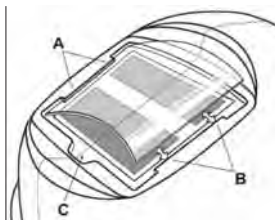

Figure 1
**Replacing Front Cover Lens:** Replace the front cover lens if it is damaged – cracked, soiled or pitted. Place your finger or thumb into recess (C) at the bottom edge of the cover lens and flex the lens upwards until it releases from the edges marked A and B. (Refer to figure 1). Use only the replacement front cover lenses specified in this manual.